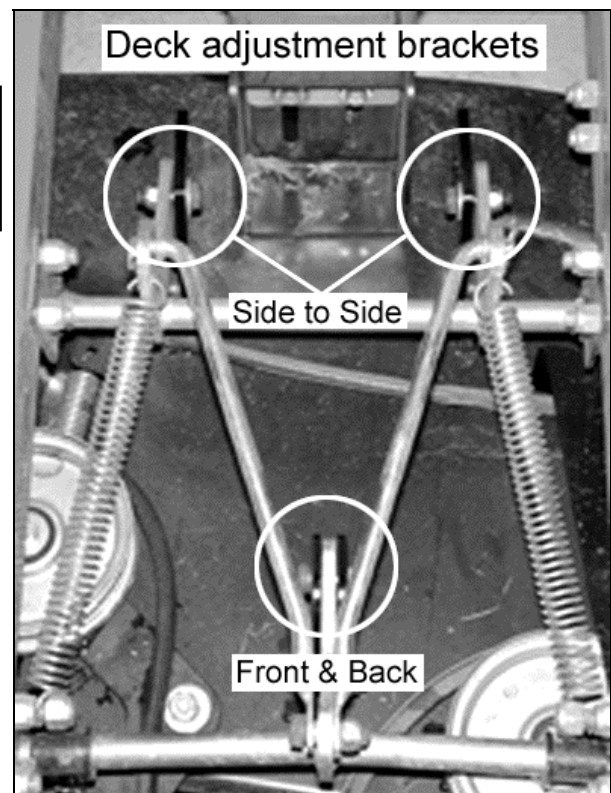

Figure 12
3. Remove the belt covers and locate the adjustment brackets (*Figure 12*).